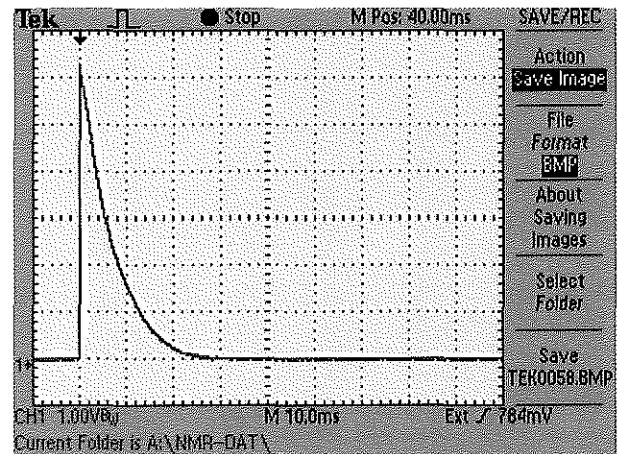

Figure 3.5 FID of Heavy Mineral Oil
10. Adjust the magnetic field gradient coils several times. Figure 3.5 shows our data from the Env. Output. Can you achieve this long – or maybe longer decay times?